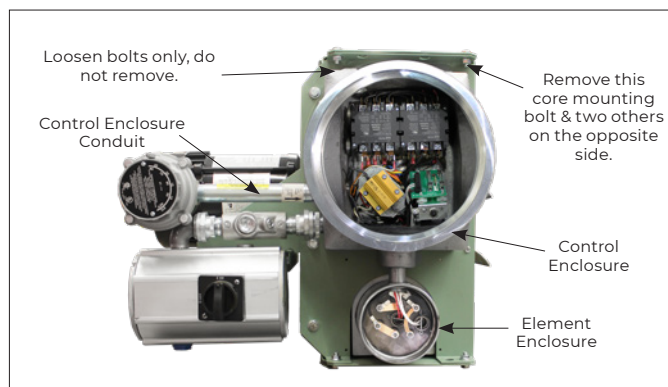

Figure 10
- 2.2 Disconnect all wires entering element enclosure (see Figure 10, page 18).
- 2.3 Slightly loosen all cabinet bolts shown in Figure 10, page 18, to prevent the core from binding.